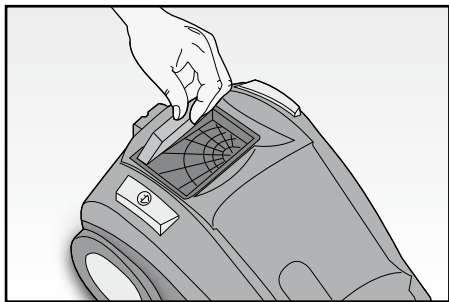

Fig. 12
- Take out the dust container (A) as described previously.
- Remove the filter and clean it under running water (Fig. 12). Leave it to dry thoroughly.